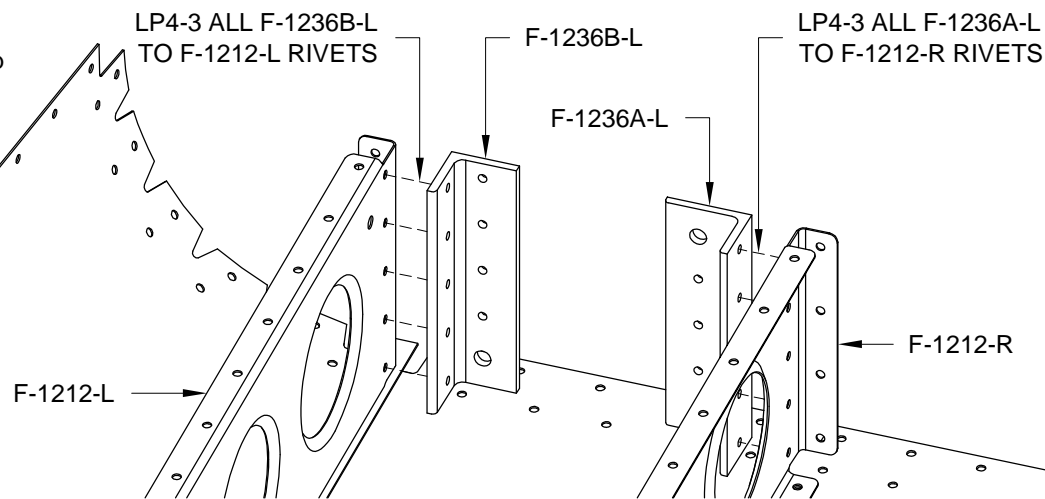

FIGURE 2: RIVETING THE STEP ATTACH ANGLES
Step 5: Rivet the F-1236A-L & B-L Step Attach Angles to the F-1212-L & -R Step Ribs using the rivets called out in Figure 2.